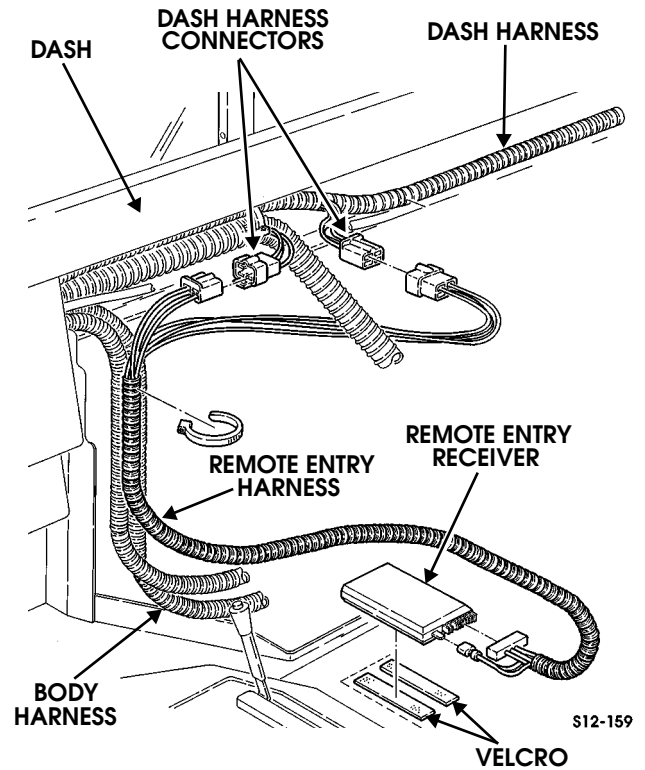

Figure 12-133: Receiver harness
6. Disconnect two power windows and door locks harness connectors from receiver harness connectors (Figure 12-133).
13. Remove seven tie straps securing harness to vehicle body harness and remove harness. Discard tie straps (Figure 12-133).
8. Connect two power windows and door locks harness connectors to receiver harness connectors (Figure 12-133).